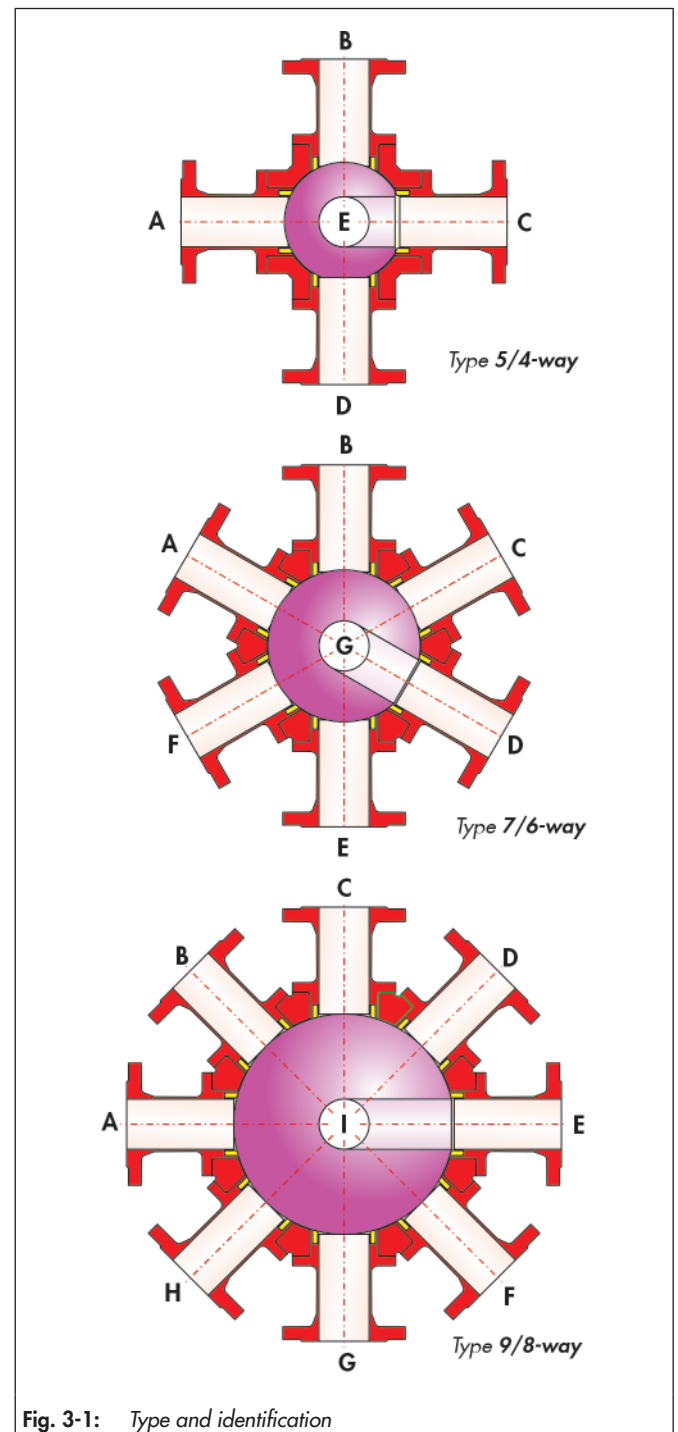

Fig. 3-1: Type and identification
- Various types, examples see Fig. 3-1